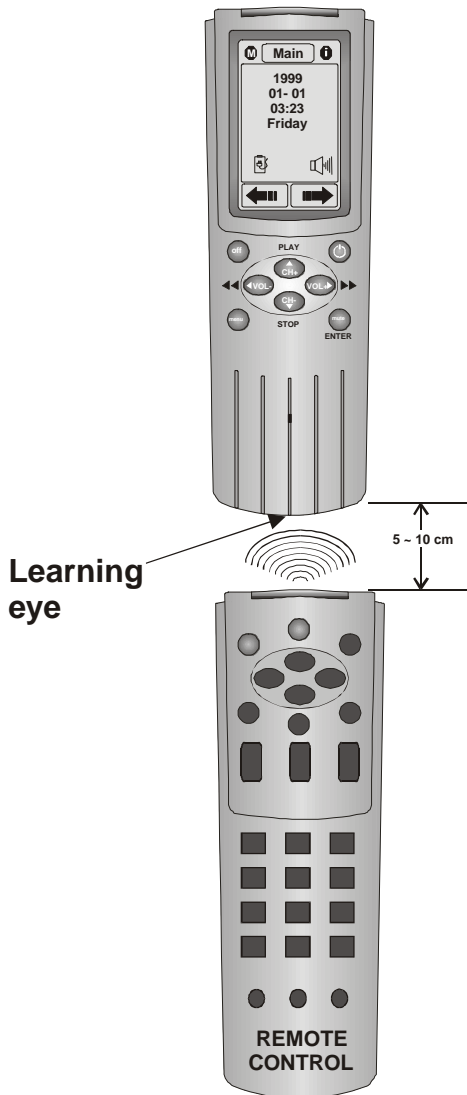

Figure 4-6: Using the Learning eye
1. Point your remote control at the UCommand-616's Learning eye as shown in *Figure 4-6*.